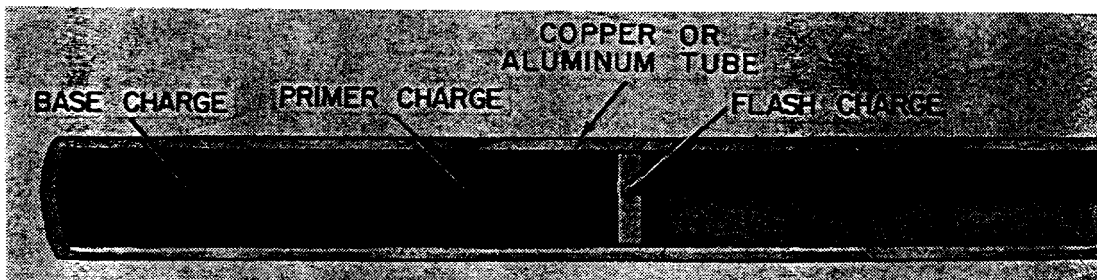
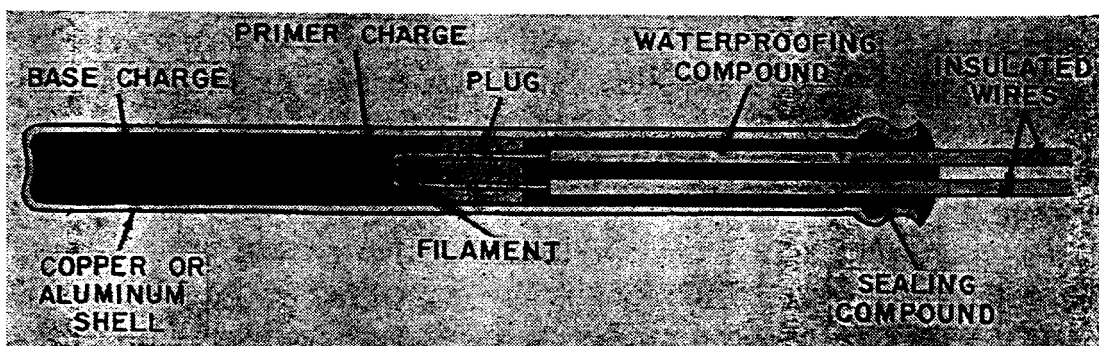

Figure 40. Nonelectric blasting cap.
Figure 41. Electric blasting cap.
b. *Blasting Caps.* A blasting cap (FM 5-25) is a copper or aluminum tube of small diameter. The tube is closed at one end and is half-filled with a heat-sensitive explosive. In the nonelectric blasting cap (fig. 40) the explosive is coated with a flash charge which ignites when exposed to the flame from safety fuse. The unfilled end of the nonelectric cap receives the end of a length of safety fuse, which usually is crimped in place. In the electric blasting cap (fig. 41), a filament or "bridge" of high-resistance wire is buried in the heat-sensitive explosive. The ends of the filament are connected to 12-foot lead wires which are used to connect the cap to a source of electric current. The free ends of the lead wires are soldered together during manufacture and must not be separated until just before connecting the cap to a firing circuit. The electric blasting cap has a resistance of 2.0 ohms and requires a current of no less than 0.6 amperes to function.